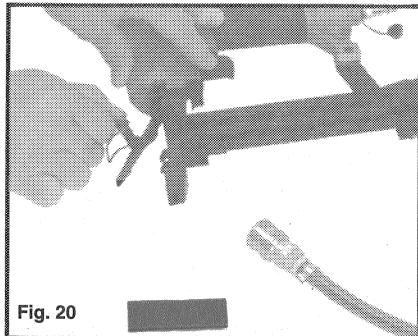

Fig. 20
3. Open the quick release latch and hinge fastener guide plate open (see Fig. 20).